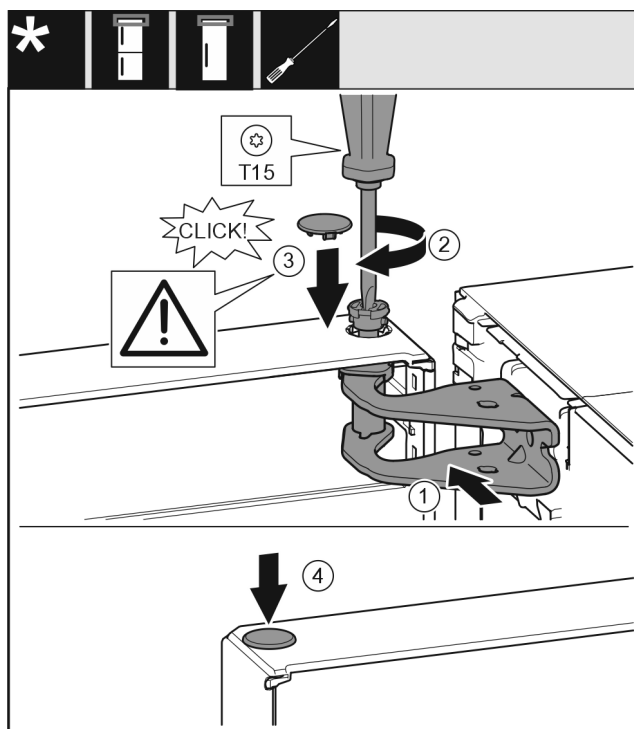

Fig. 20
- Align the top of the door with opening in the bearing bracket. Fig. 20 (1)
- Insert the bolt and tighten with a T15 screwdriver. Fig. 20 (2)
- Fit the protective cover to protect the door: Insert the protective cover and check that it is flush to the door. If not, insert the bolt fully. Fig. 20 (3)
- Insert the plugs. Fig. 20 (4)